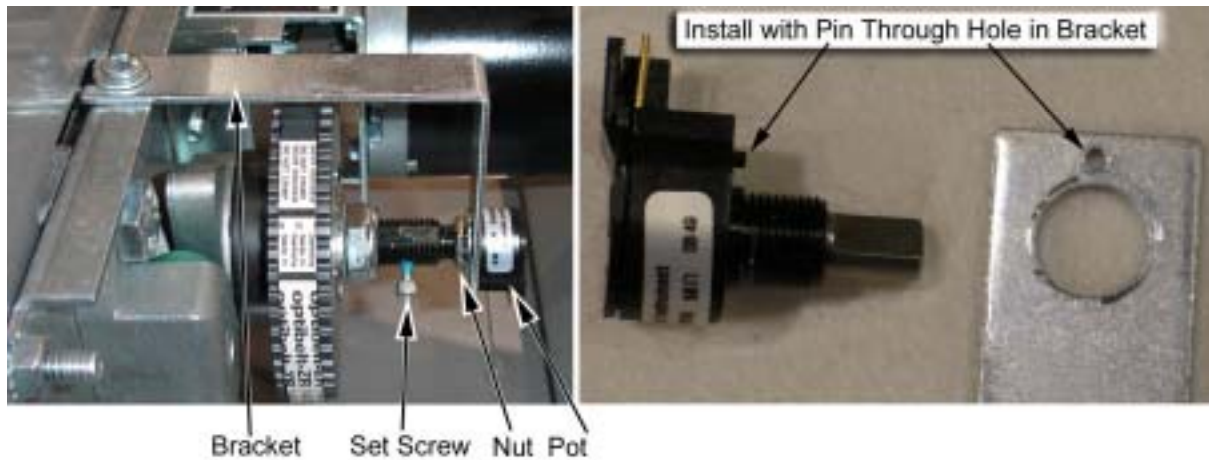

Figure 51. Replacing the 5 K Ω Steering Pot
To replace a pot, refer to Figure 51 and perform the following steps:
3. Reverse these steps to install the new pot. Install the pot with the plastic pin through the small hole in the bracket, as shown in Figure 51 below.
Refer to Figure 51 above, and Figure 52 below, and perform the following steps to remove the force-feedback belt for repair. Always replace the belt if it looks cracked or worn.
1. Using a 7/64 Allan wrench, loosen the set screw from the steering column and remove the bracket with the pot attached (see Figure 51).